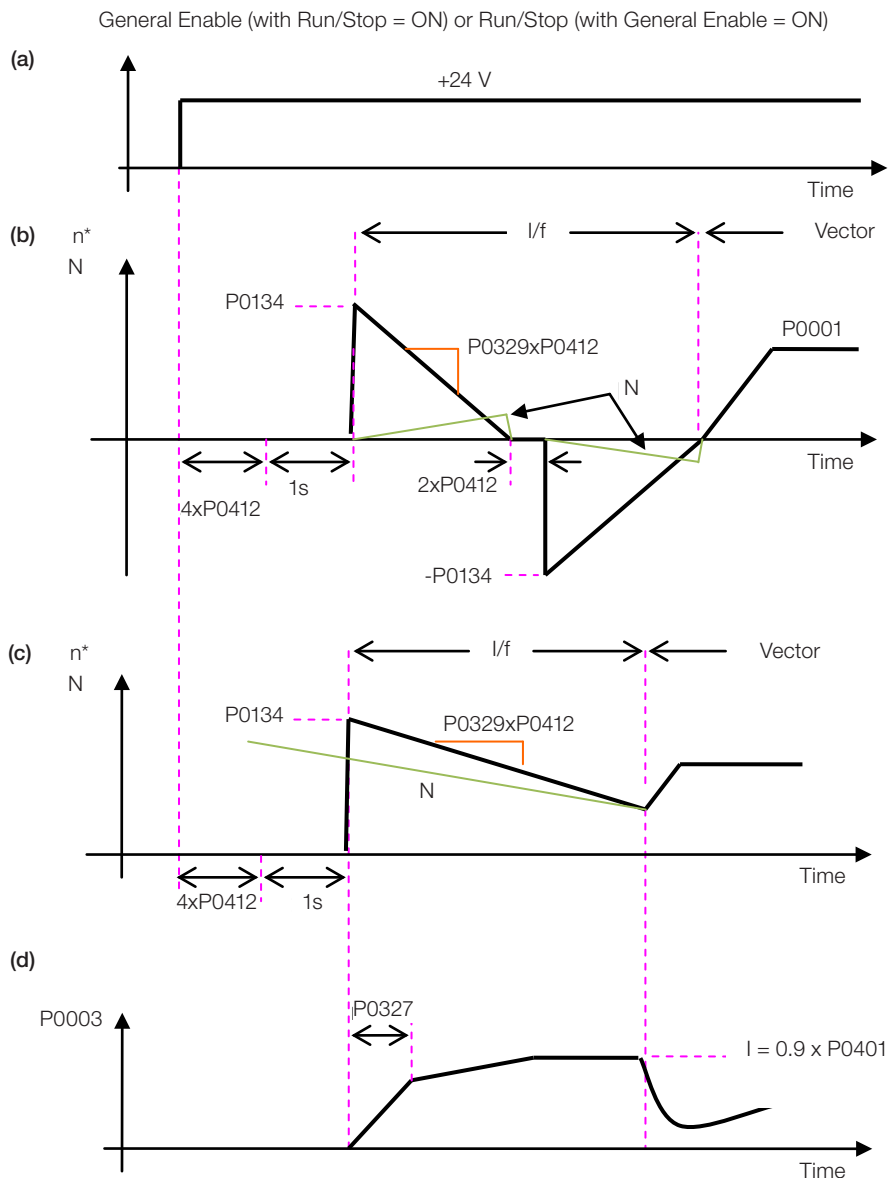

Figure 14.3: (a) to (d) Influence of P0327 and P0329 during Flying Start ($P0202 = 4$)
The behavior of the Flying Start function (FS) in the sensorless mode during acceleration and reacceleration can be understood from the Figure 14.3 on page 14-8.
The Figure 14.3 on page 14-8 shows the behavior of the speed reference when the FS function is started with stopped motor shaft and small P0329 value (not optimized).
The Figure 14.3 on page 14-8 shows the speed reference when the FS function is initiated with the motor shaft already running in the desired direction, or with stopped shaft and an already optimized P0329.